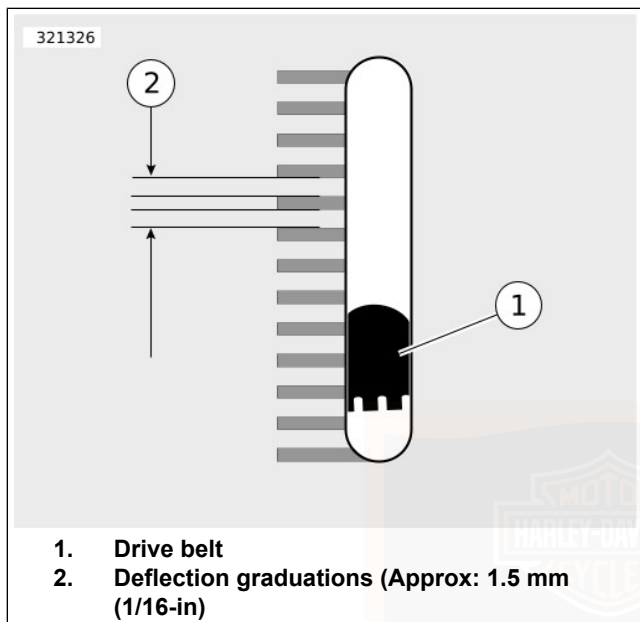

Figure 58. Belt Deflection Window
- a. Slide O-ring (4) to 0 kg (0 lb) mark (3).
- b. **Models equipped with belt deflection window:** Fit belt cradle (2) against bottom of drive belt in line with belt deflection window.
- c. **All other models:** Fit belt cradle (2) against bottom of drive belt halfway between drive pulleys.
- d. Press upward on knob (6) until O-ring slides down to 4.5 kg (10 lb) mark (5) and hold steady.
- a. **Models equipped with belt deflection window:** See Figure 58. Measure belt deflection as viewed through belt deflection viewing window while holding gauge steady. Each deflection graduation is approximately 1.59 mm (1/16 in).